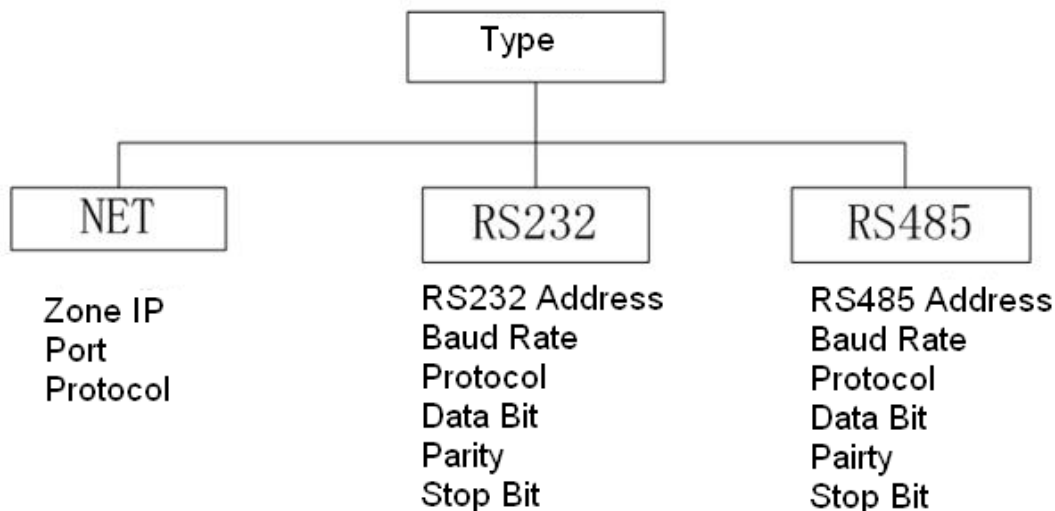

Figure 2-9
- Link: The options include: NET/RS232/RS485. Please select the type and set the corresponding parameters. The interface is shown as in Figure 2-9.